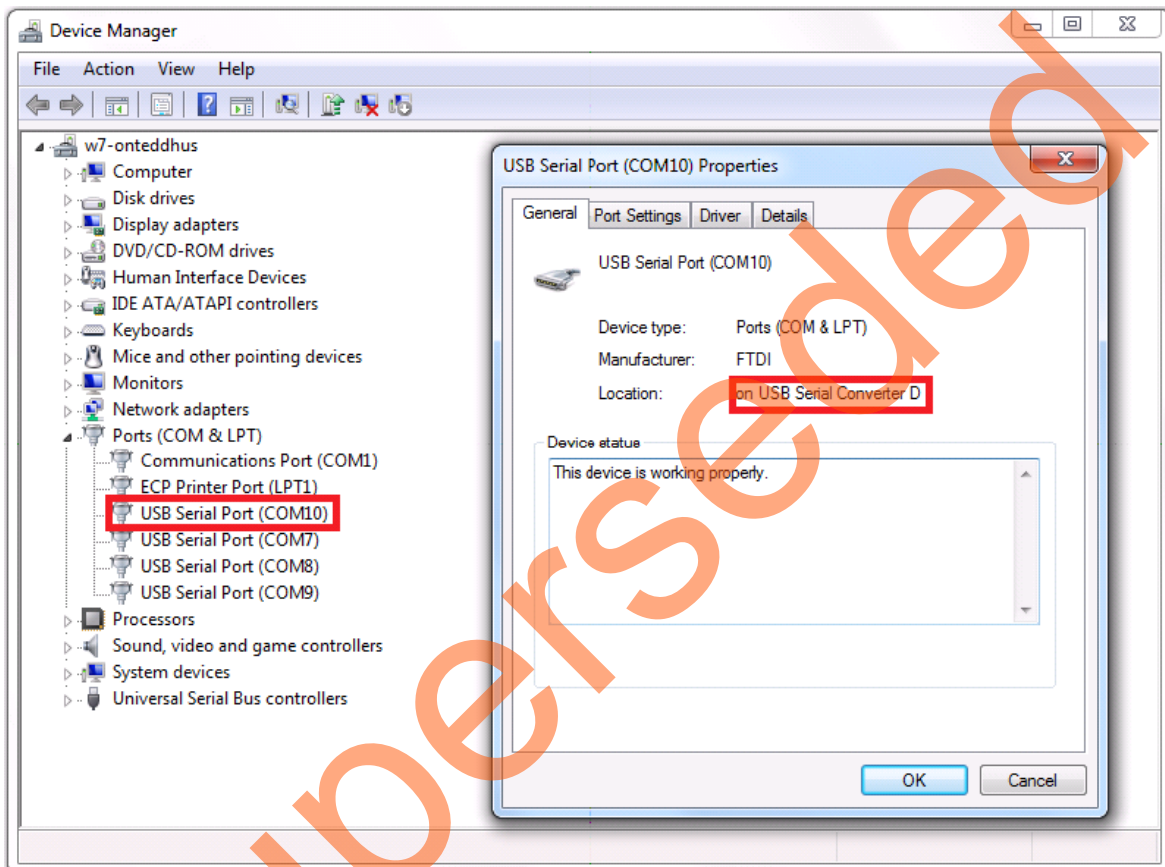

Figure 32 • Device Manager Window
2. Connect the host PC to the J18 connector using the USB Mini-B cable. The USB to UART bridge drivers are automatically detected. Of the four COM ports, select the one with Location as **on USB Serial Converter D**. Figure 32 shows an example Device Manager window.